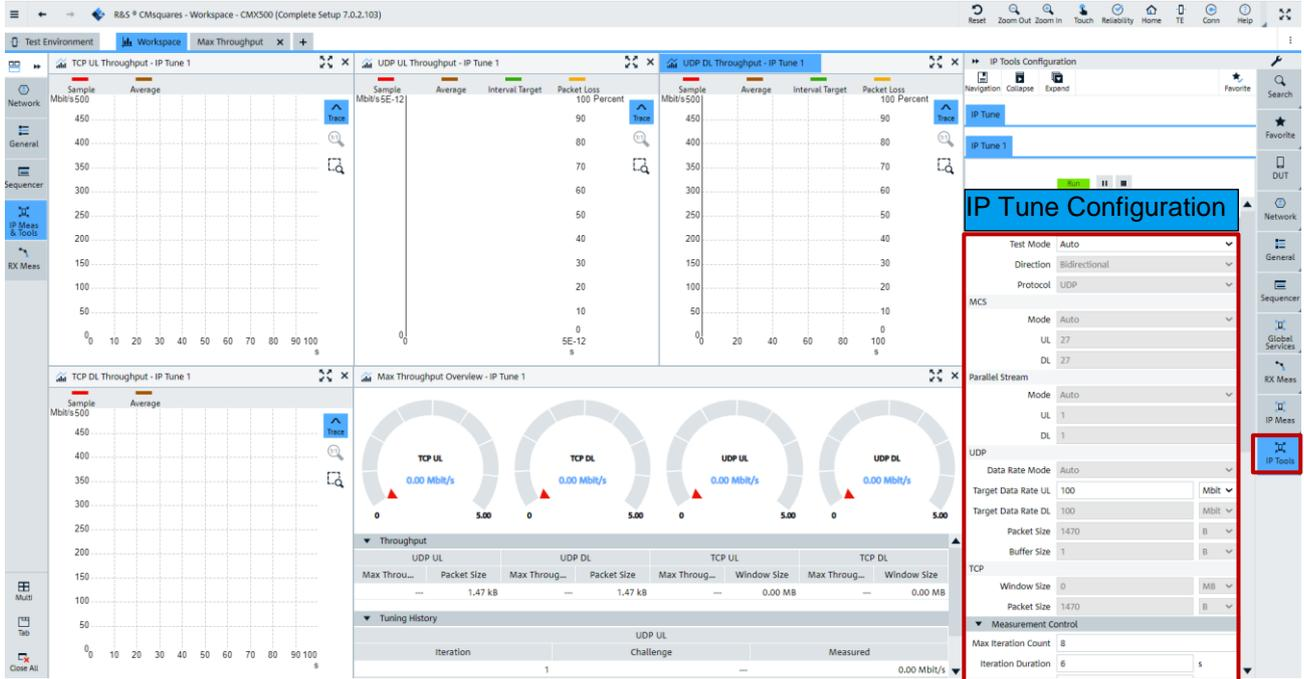

Figure 70 IP Tune configuration in CMSquares
- As shown in Figure 70, select 'IP Tune' service, and if desired, configure IP Tune service to run the test in user defined mode in CMSquares.